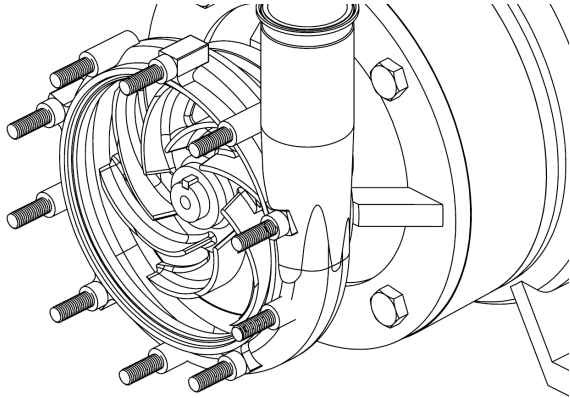

Figure 18
9. Once the impeller is on, insert the key into the keyway of the motor shaft and impeller. Figure 18.